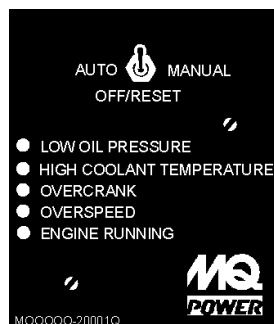

Figure 9. Engine Controller Module
10. **Engine Controller-(S/N3701674~)** has a vertical row of status LED's (Figure 9), that when lit, indicate that an engine malfunction (fault), has been detected. When a fault has been detected the engine controller will evaluate the fault and if the fault is major will shutdown the generator.